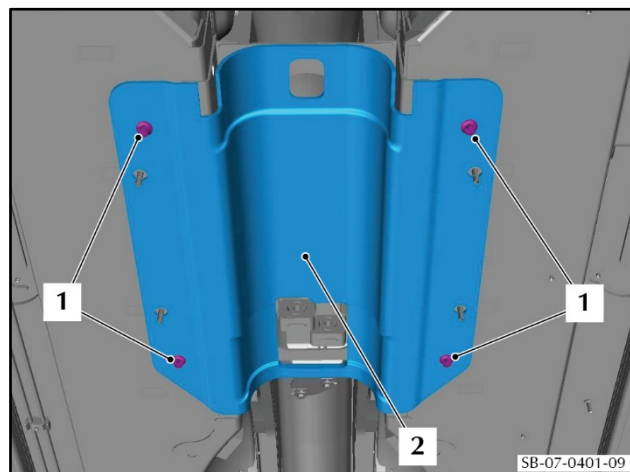

Figure 63
123. Put the tunnel heatshield (2) into position (refer to Figure 63).